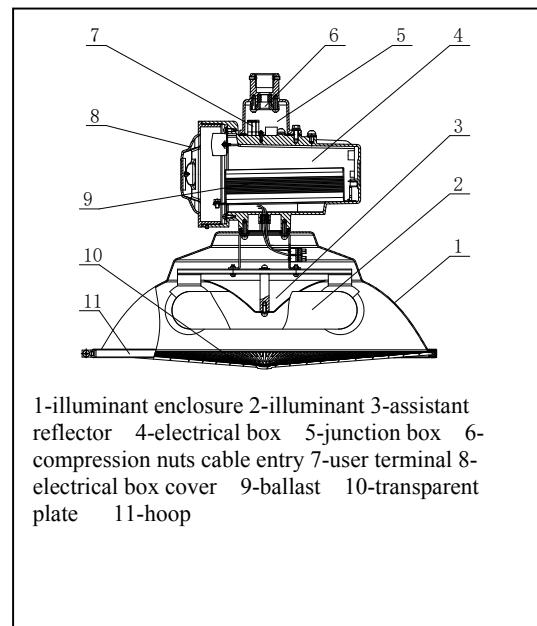

Figure2
2. The tensile strength of the aluminum alloy enclosure is no less than 120MPa and content of magnesium and titanium of the enclosure is no more than 7.5% of the total content, the enclosure is anti-corrosion. See Figure 2 for the light structure.
12. The light can be installed in pipe suspending type, ceiling type, wall mounting type, guard pole type and flange pole type. See Figure 2 for installation instructions.